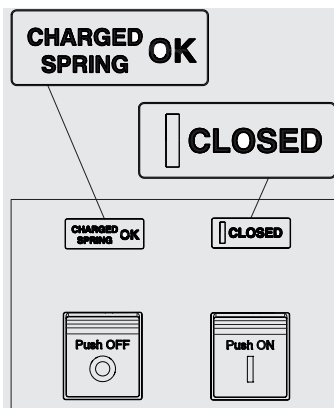

Figure 28
4. Circuit-breaker closed with springs charged (see Figure 28). This state occurs when after closing (see step 4 - Figure 28) the springs are recharged manually or automatically by the gearmotor (if provided).